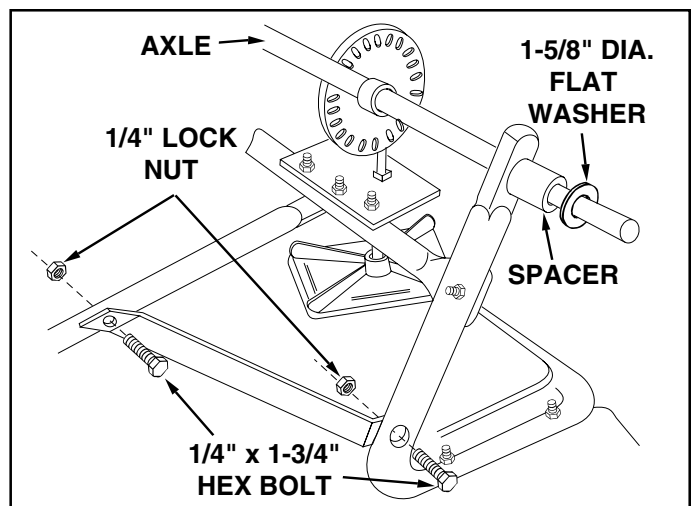

FIGURE 5
5. Assemble two hitch braces to the inside of the hopper frame, one on each side, using two 1/4" x 1-3/4" and two 1/4" hex lock nuts. See figure 5. **DO NOT TIGHTEN AT THIS TIME.**
6. Align the holes in the ends of the two hitch braces with the nearest hole in the hitch tube, secure with 1/4" x 1-3/4" hex bolt and 1/4" hex lock nut. See figure 5.
8. Assemble one spacer, and one 1-5/8" dia. flat washer to each side of axle. See figure 5.